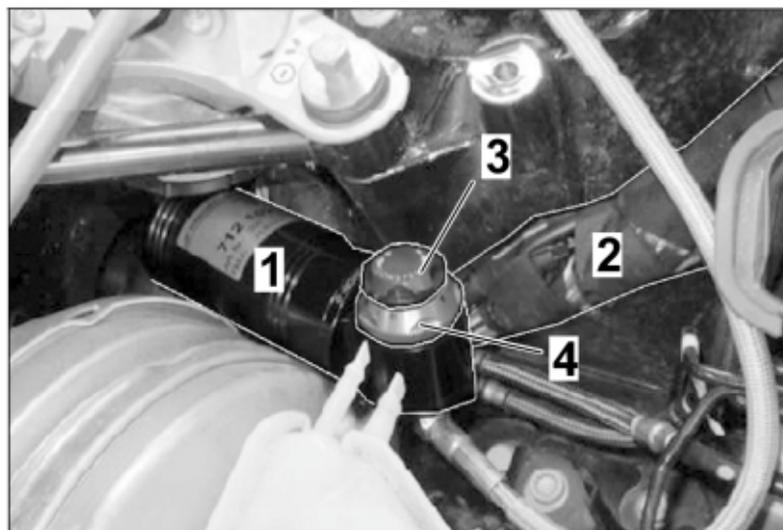

Figure 14 (LHD vehicle)
12. – Attach the pressure cell ⇒ Figure 14 (LHD vehicle) -1- of the damper on the driver's side with two cable ties on the wiring harness shown ⇒ Figure 14 (LHD vehicle) -2-. Fastening points for right-hand drive vehicles (RL) may vary: Mount the pressure cell onto the existing wiring harness as with left-hand drive vehicles (LL, ⇒ Figure 14 (LHD vehicle)).